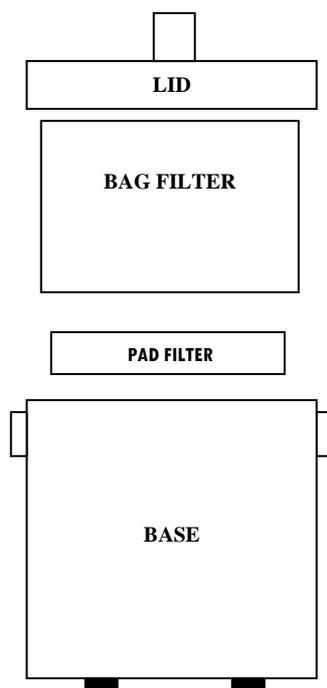

Fig 1 DP 50, DP75, DP250 Filter Placement
4. Lift the hinged top plate until the Bag filter can be slid off the plate and removed. (See fig 1 for filter layout).